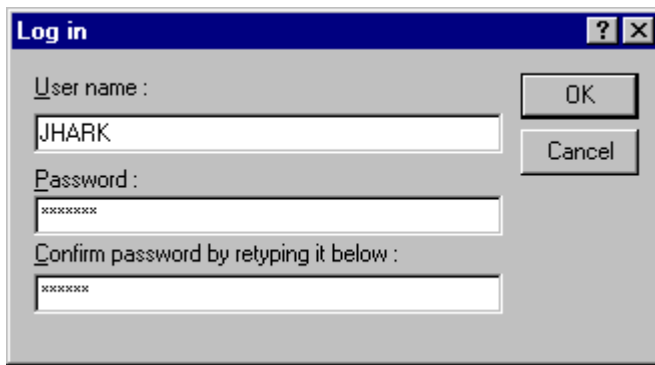

Figure 8.14: Log in Dialog
1. Click the “Log in...” button. The dialog shown in * MERGEFORMAT figure 8.14 will be displayed.